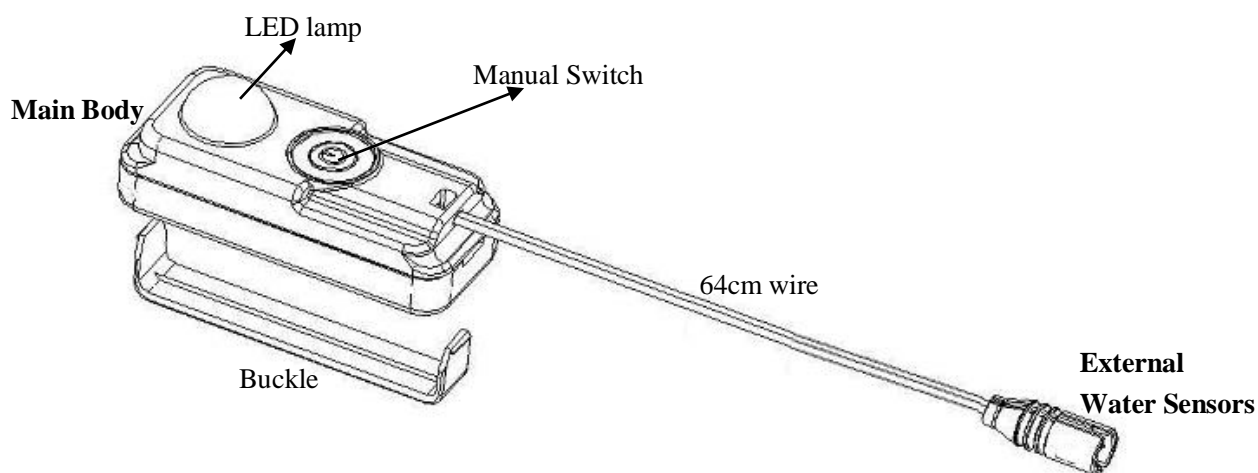

Figure 2-1 Product Structure
2.2.1 LNK-SL2 & LNK-SL2W lifejacket lights consist of Main body with battery\ LED lamp \ External water sensors\manual switch and installation buckle. The structure is shown as below Figure2-1: